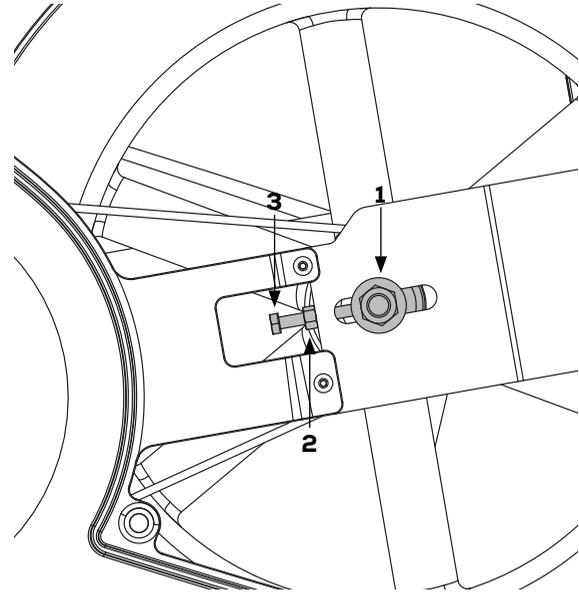

Figure 27
- 2) Loosen the bolts (1) on both sides of the cycle with a 19 mm wrench, See figure 27
- 3) Loosen the nuts (2) on the counter bolt on both sides of the cycle with a 10 mm wrench, see figure 27.
- 4) Use a wrench to tighten the counter bolts (3). On the right side, the tool should be pulled downwards and on the left side upwards to tighten with a 10 mm wrench.
- 6) Tighten the counter bolt (2) on both sides of the cycle again.
- 7) And tighten the bolt(1) again on both sides of the cycle.